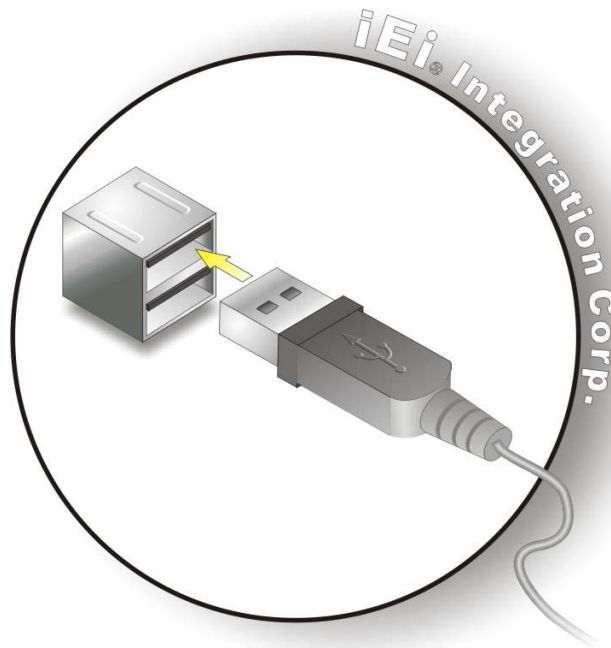

Figure 3-37: USB Device Connection
Step 2: **Align the connectors.** Align the USB device connector with one of the USB connectors on the bottom panel. See **Figure 3-37**.